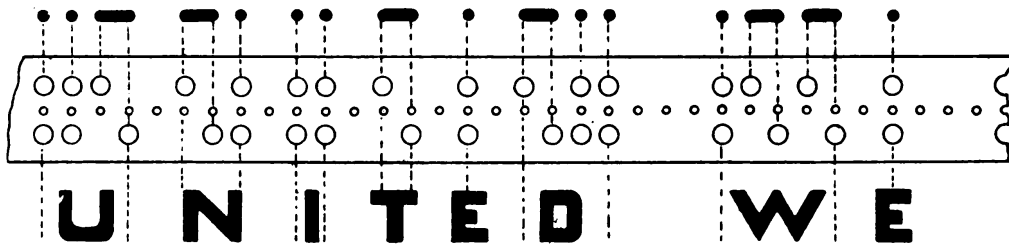

Figure 10. Wheatstone code perforated tape.
The signal elements (dots and dashes) appear in the tape (fig. 10) as double perforations. A center line of small perforations runs through the tape. Each signal element will have one signal perforation above the center line and one below. Two types of perforators are in use for preparing tape for the automatic transmitter.
a. Placing Tape in Auto Head. The tape is placed in the auto head to feed from right to left (fig. 9). It must pass across tape guide A which keeps it in alignment with tape-feed roller B and tape-feed spindle G. The tape passes through the auto head face up, in the position in which it is read (fig. 10). The *start* perforations are in, with respect to the auto head. The *stop* perforations are out, with respect to the auto-head.
11. INTRODUCTION (fig. 10).
(4) SPACE BETWEEN WORDS. Normally, spacing between words and groups is equal to seven dots. When the **stop** pin has ended a word, the **start** pin rises, finds no perforation; then the **stop** pin rises and finds no perforation. A second time the **start** pin rises and finds no perforation; the **stop** pin rises and finds no perforation. A third time the **start** pin rises and finds no perforation; the **stop** pin also rises and finds no perforation. At its fourth rise, the **start** pin passes through a perforation, and starts the signal of the next word. As illustrated in figure 10, this spacing between words is provided by three center-line holes with no perforations above or below them.